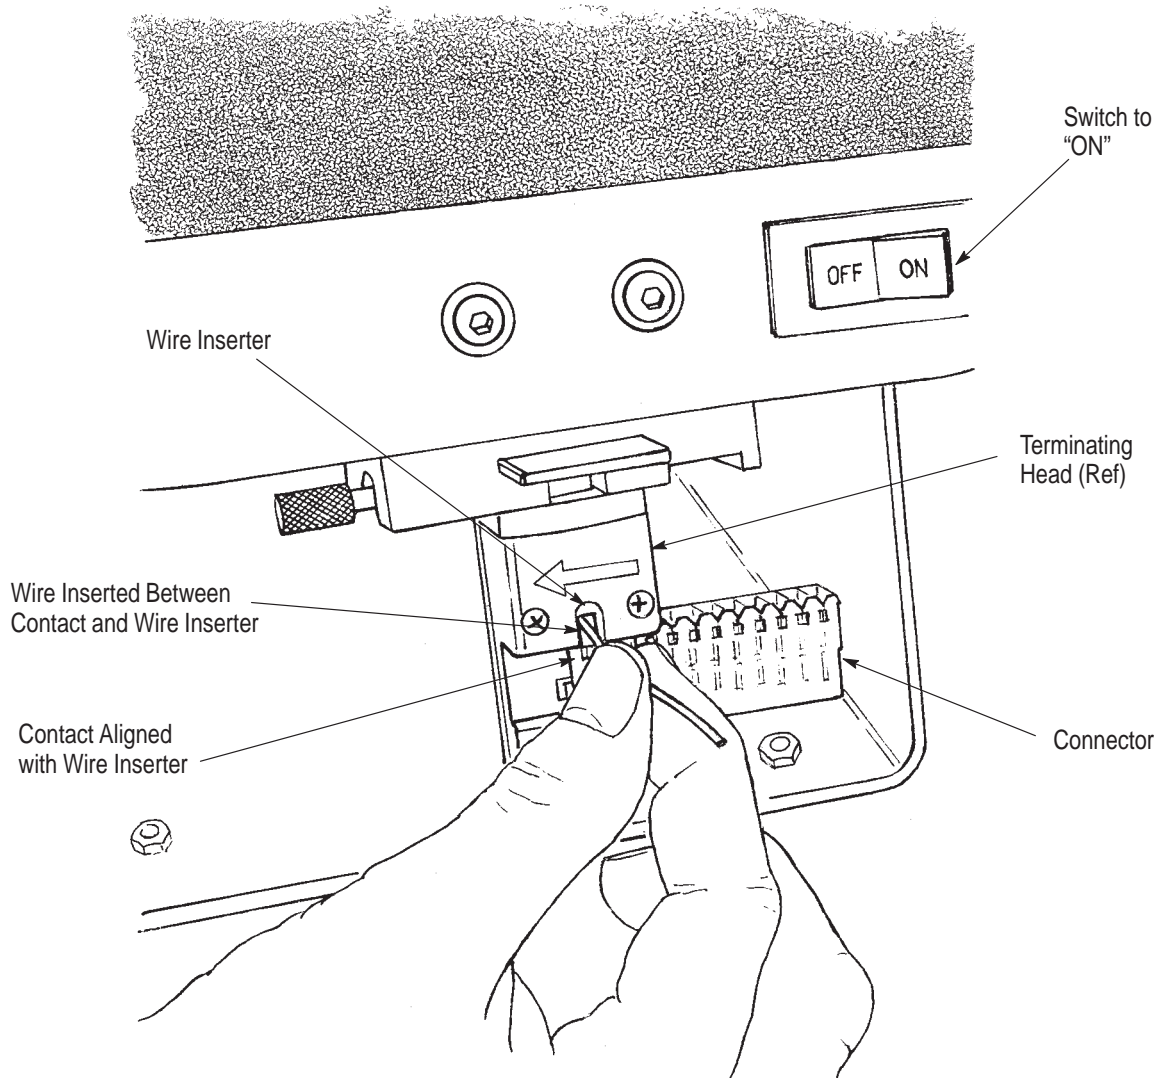

Figure 7
4.2. Machine Operation (Figure 7)
4. Insert connector into right side of head (see Figure 7). Align the contact to be terminated with the wire inserter.